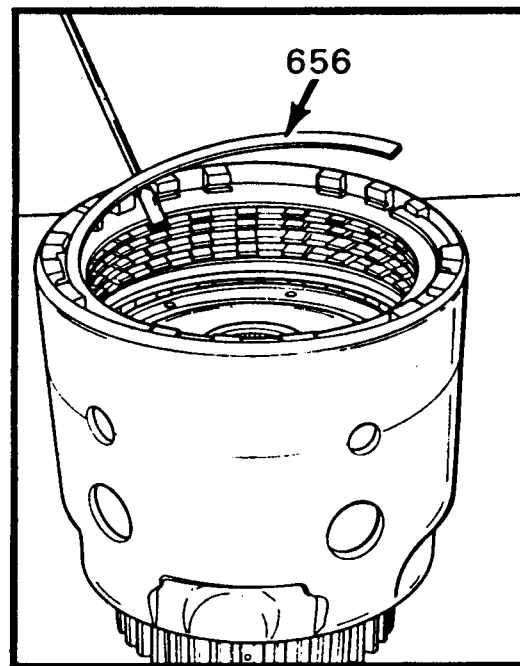

Figure 113
6. Install the 3-4 clutch backing plate snap ring as shown in Figure 113.